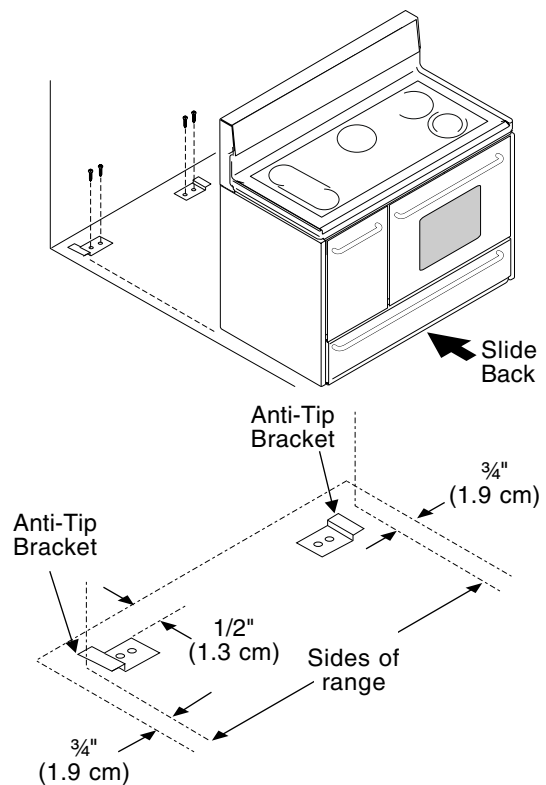

Figure 10
1. Unfold paper template and place it flat on the floor with the back and side edges positioned exactly where the back and sides of range will be located when installed. (Use the diagram in figure 10 to locate brackets if template is not available.)
3. Remove template and place brackets on floor with turned up flanges to the outside (see figure 10). Line up holes in brackets with marks on floor and attach with 4 screws provided (2 screws per bracket). Brackets must be secured to solid floor. If attaching to concrete floor, first drill 3/16" (4.8 mm) dia. pilot holes using a masonry drill bit.